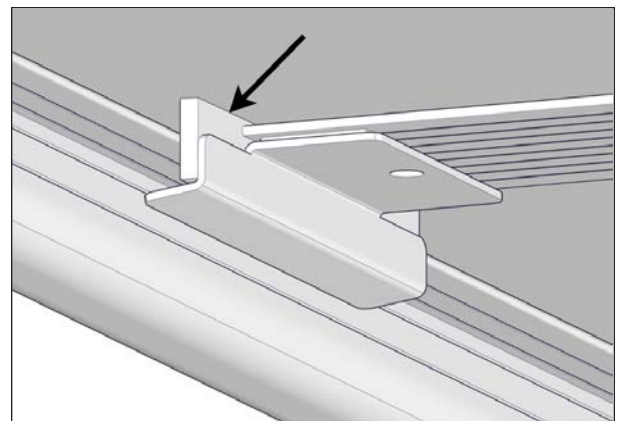

FIGURE 69: FINAL POSITION OF THE WIPER
At the final position of the wiper, the flap must touch the edge of the I-beam see Figure 69.
4. Stick the wiper bracket on the middle of the I-beam by holding it in place and maintaining pressure for at least 60 seconds. This ensures a proper bond to the I-beam. Make sure you install the wiper flap at the edge of the I-beam directly into the gap between the I-beam and the C-channel, see Figure 69.